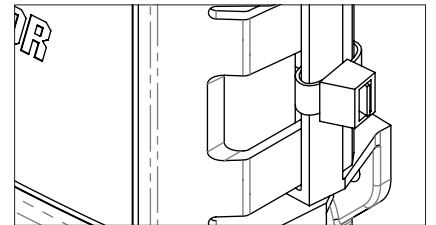

Figure 5 - Tie wrap placement
4. Lid should snap closed and a zip tie or tie wrap must be used as a locking feature (see Figure 5, tie wrap included).